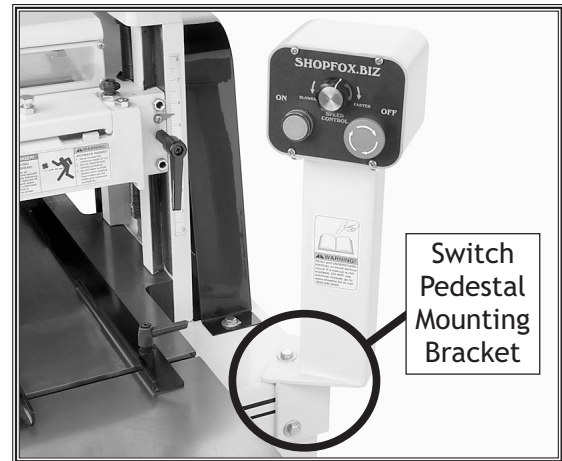

Figure 13. Switch pedestal installation.
11. Feed the switch pedestal wiring harnesses into the cabinet through the hole in the cabinet and secure the switch pedestal to the cabinet (**Figure 13**) with three $\frac{5}{16}$ "-18 x $\frac{3}{4}$ " hex bolts and $\frac{5}{16}$ " flat washers.